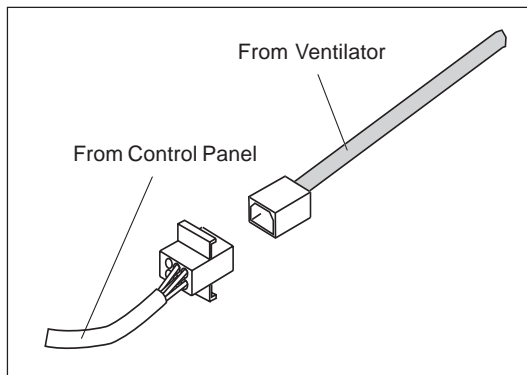

Figure 13
2. Connect the VTN1030C molex plug connector to the connector present inside the hood as shown in Figure 13.